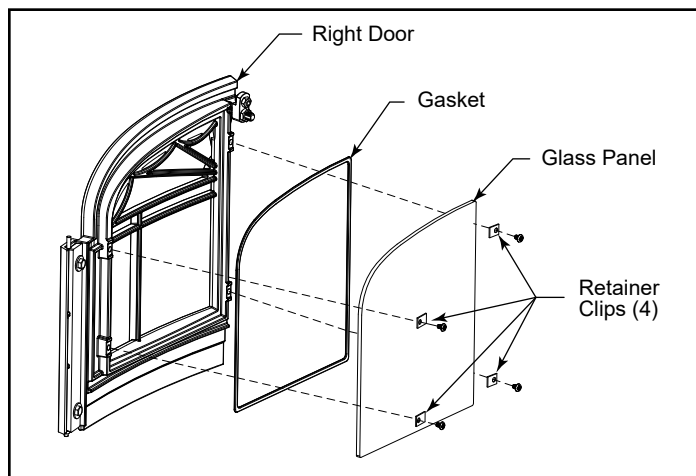

Figure 3.1 - Exploded view of the glass assembly for the right door.
2. Secure the glass on both doors with the retainer clips. Tighten all screws, Figure 3.1.